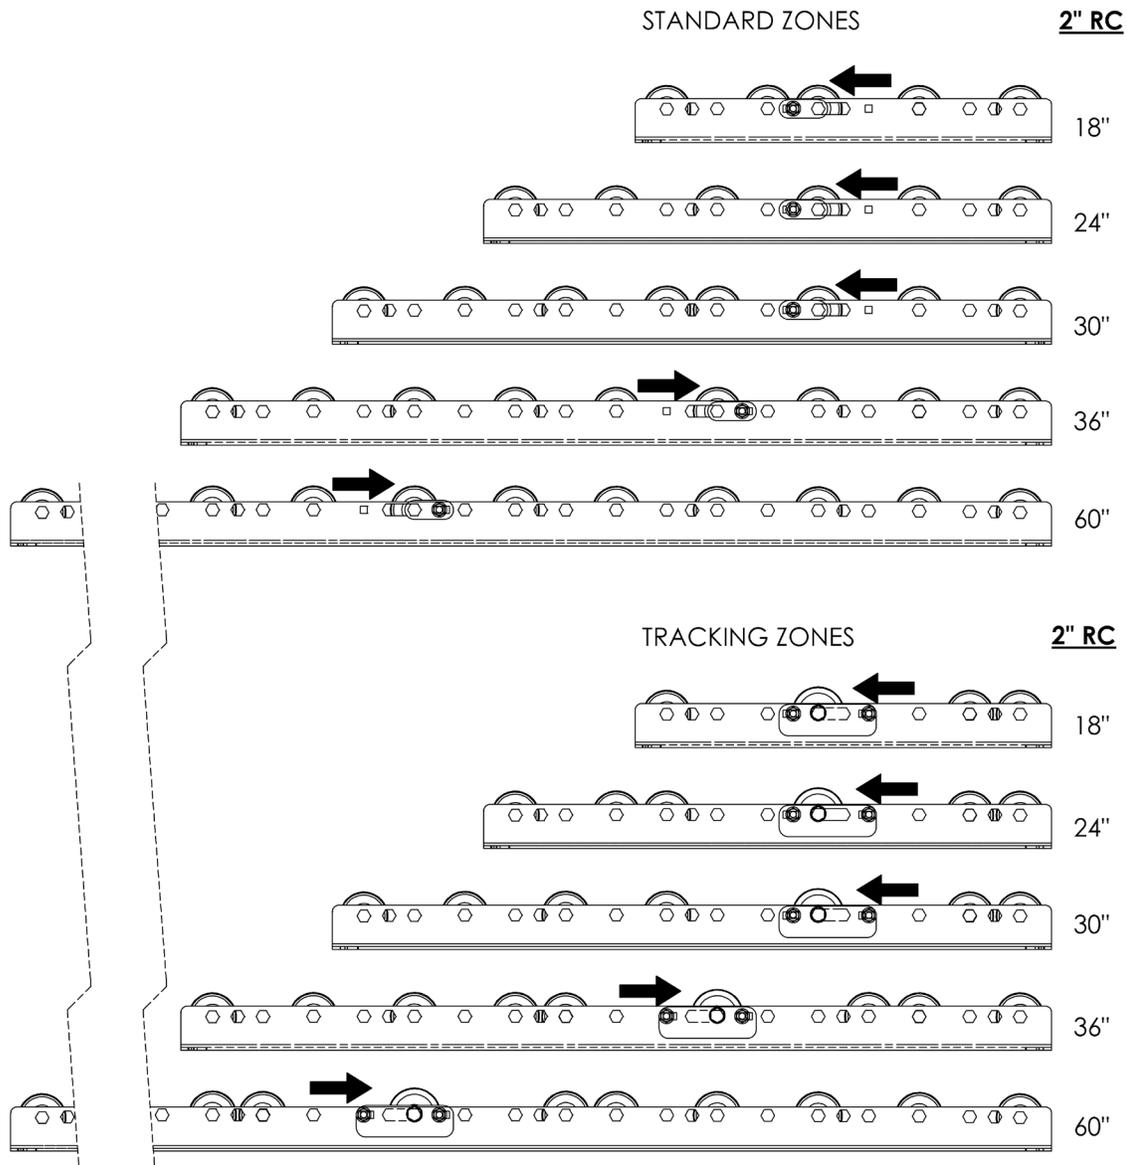
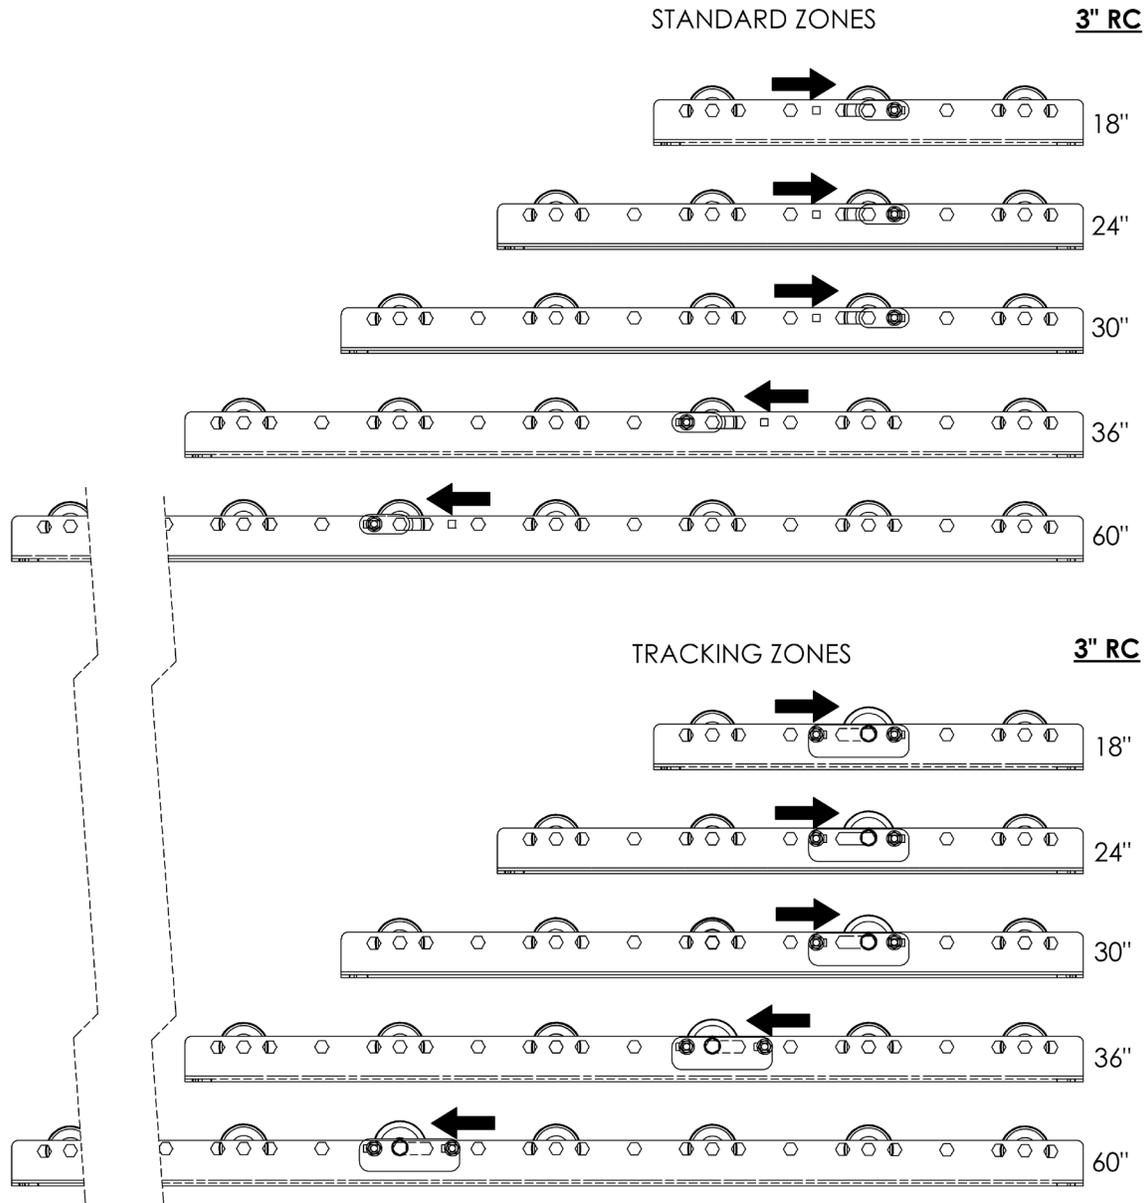
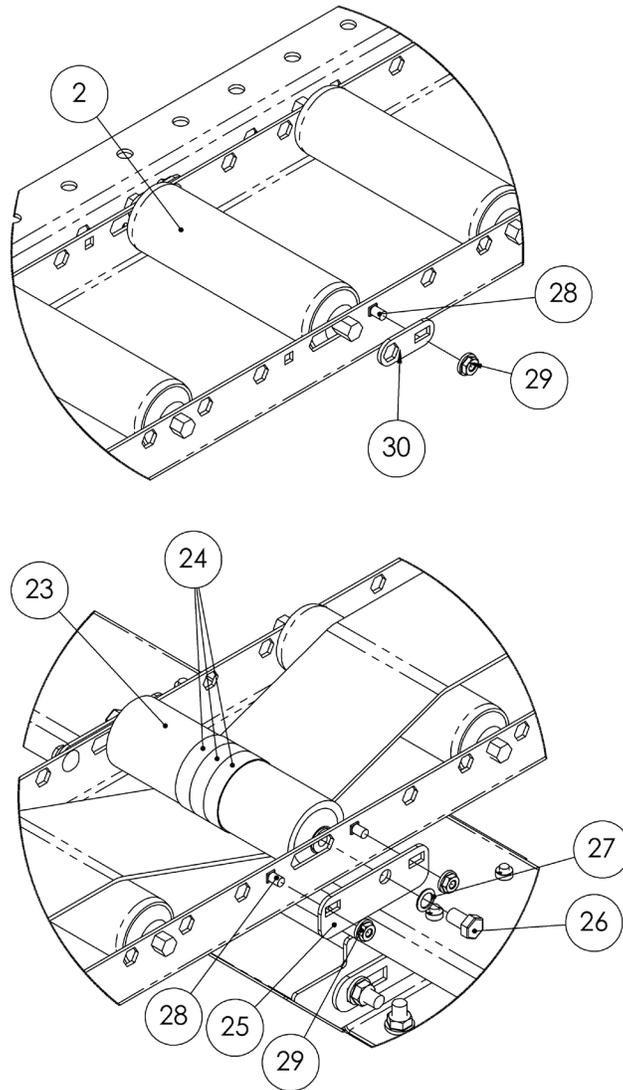

Figure 20: Pressure Roller Locations for 2"RC Pressure Modules
Figure 21: Pressure Roller Locations for 3"RC Pressure Modules
Figure 22: RLVAC Intermediate Bed Tracking Roller Details
2. The tracking zone kit consists of a heavy duty roller with adjustment brackets, and carrying rollers and bands to replace the conveying rollers in the zone. See Figure 22: RLVAC Intermediate Bed which shows a tracking zone installed next to a standard zone.
4. Remove the adjustable center pressure roller and brackets (30) from the pressure module.
5. On 2" roller center conveyor, move the fixed pressure rollers nearest the adjustable center roller location to match the roller locations shown in Figure 20: Pressure Roller Locations for 2"RC Pressure Modules. No pressure rollers may be installed within 6" of the adjustable center roller location.
6. Replace the adjustable center pressure roller with the heavy duty roller (23) and brackets (25) provided in the tracking zone kit. Route the belt underneath the heavy duty roller. See Figure 22: RLVAC Intermediate Bed for an example of belt routing.
- a. The tracking bands for the heavy duty roller are item (24). Tracking bands are pre-installed when the heavy duty roller is supplied as part of a belt tracking zone kit.
- b. The hardware included with the tracking zone kit is shown as items (26), (27), (28), and (29). See Table 11: RLVAC General Arrangement BOM in Appendix 2: General Arrangement Drawings for detailed descriptions and part numbers.
7. Adjust the heavy duty roller location to the correct side of the adjustable center roller slot, as shown by the arrows in Figure 20: Pressure Roller Locations for 2"RC Pressure Modules and Figure 21: Pressure Roller Locations for 3"RC Pressure Modules. Ensure the heavy duty roller is square to the pressure module frame by moving it to the end of its travel on both sides, then tighten the brackets and roller fasteners.